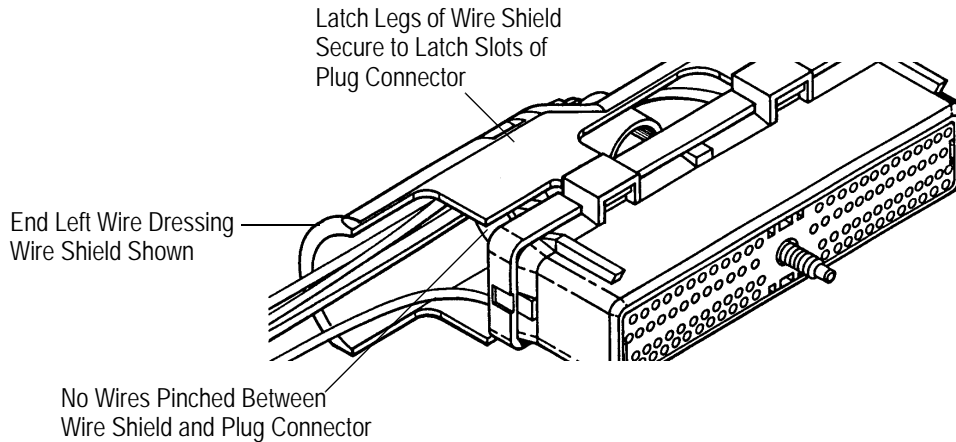

Figure 4
4. The wire shield must be assembled over the wires and onto the wire side of the plug connector. No wires can be pinched between the wire shield and the plug connector. See Figure 4.